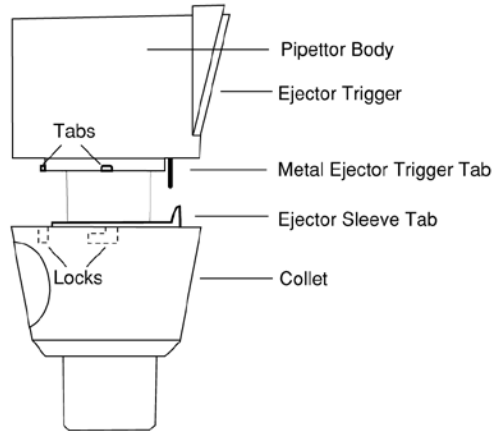

Figure F.1.3b: Detaching the Collet
4. Slide the collet, with spring and ejector sleeve, over the cylinder. Position the metal tab of the ejector trigger behind the tab on the ejector sleeve (see Figure F.1.3b).
5. Attach the collet onto the pipette body by twisting left slightly, then right, to insert the tabs of the pipette body into the locks on the collet (see Figure F.1.3b).